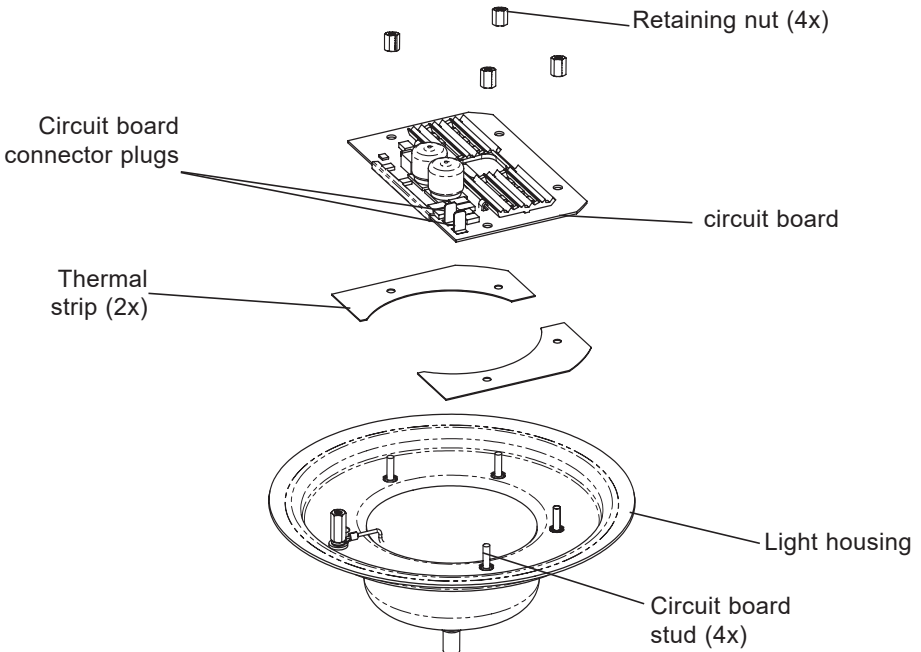

Figure 8.
6. Using a  $\frac{1}{4}$ " nut driver, carefully remove the four retaining nuts from the light assembly. See Figure 8. Place the nuts aside for reinstallation. See Figure 8.
### Installing the SlimLite Light Circuit Board (See Figure 8)